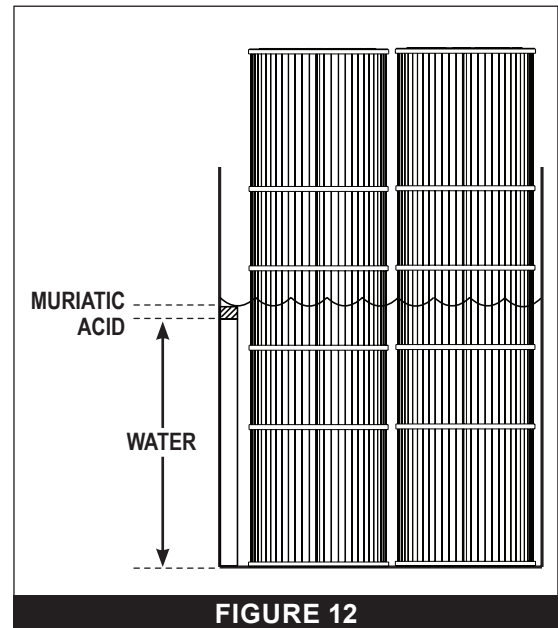

FIGURE 12
3. In a large plastic container, create a solution of one part muriatic acid to twenty parts water. See **FIGURE 12**.